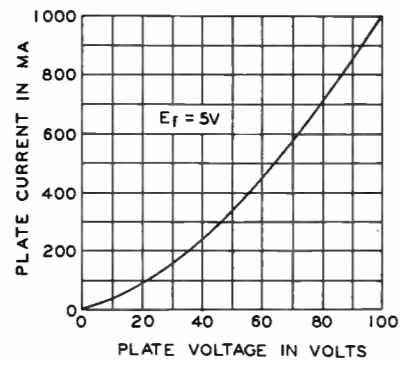

FIGURE 16
9. The curves of Figures 16 through 22 show that plate current